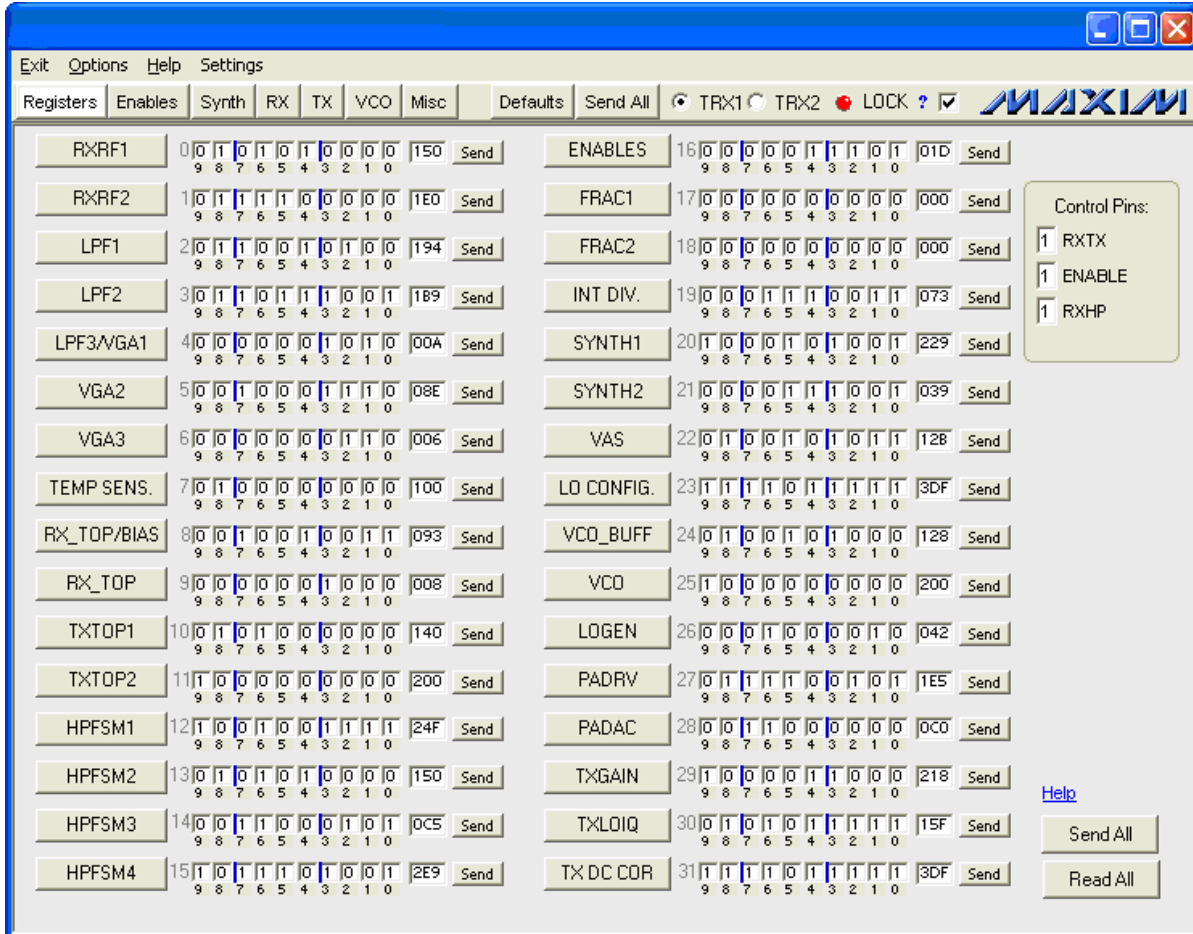

Figure 1. Receive Mode Register Setting
- 3) In the Registers panel of the software, enter the recommended register setting shown in Figure 1 for operating the MAX2838 in steady-state receive mode bench measurement. This setup fixes the VGA highpass corner at 1kHz.